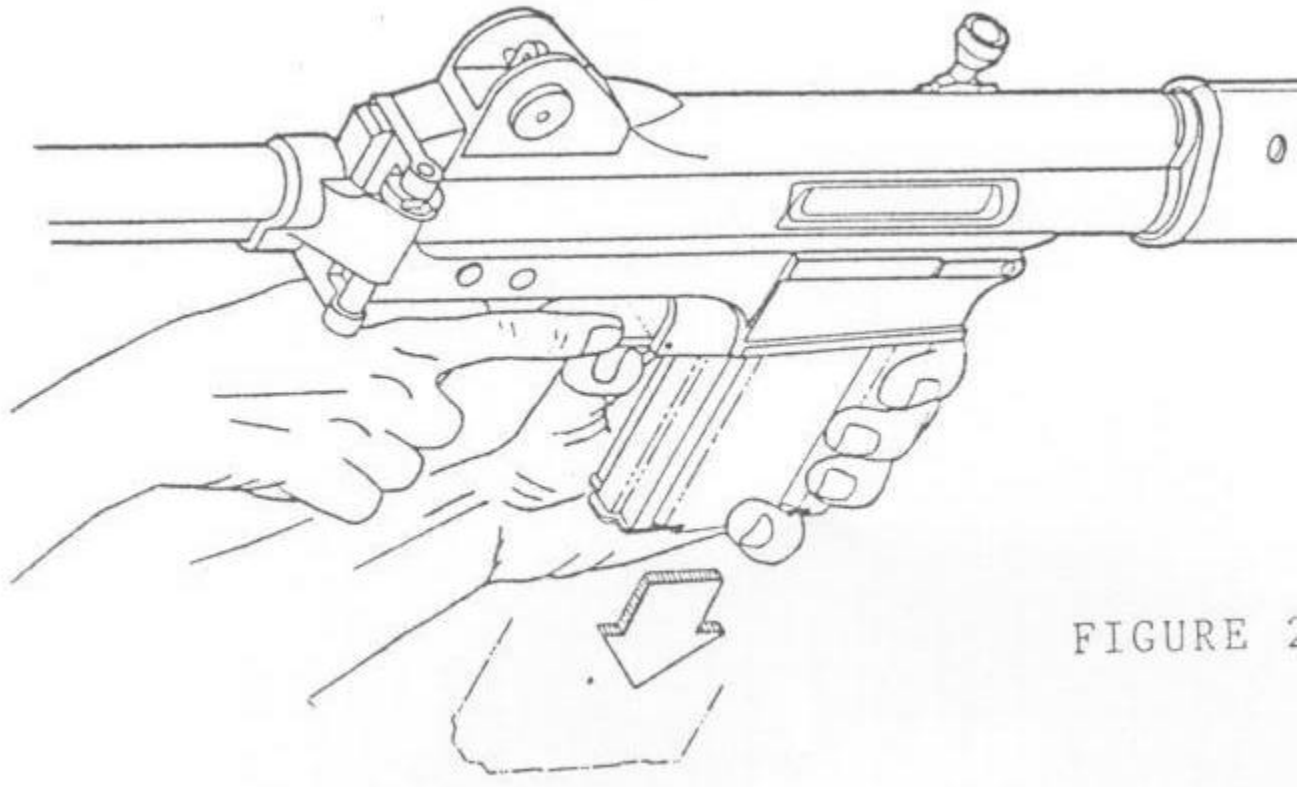

FIGURE 2
2. Remove empty magazine from rifle by placing your fingers around the front edges of the magazine, pushing forward with your thumb on the magazine release lever, and pulling straight down. (See Figure 2).